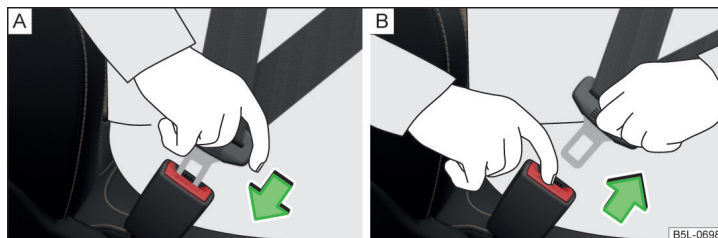

Fig. 19 Fastening/unfastening the seat belt
- Insert the lock tongue into the belt buckle » Fig. 19 - [A] that is part of the seat until it clicks into place.
- Grip the lock tongue and press the red button in the buckle » Fig. 19 - [B], the lock tongue pops out.